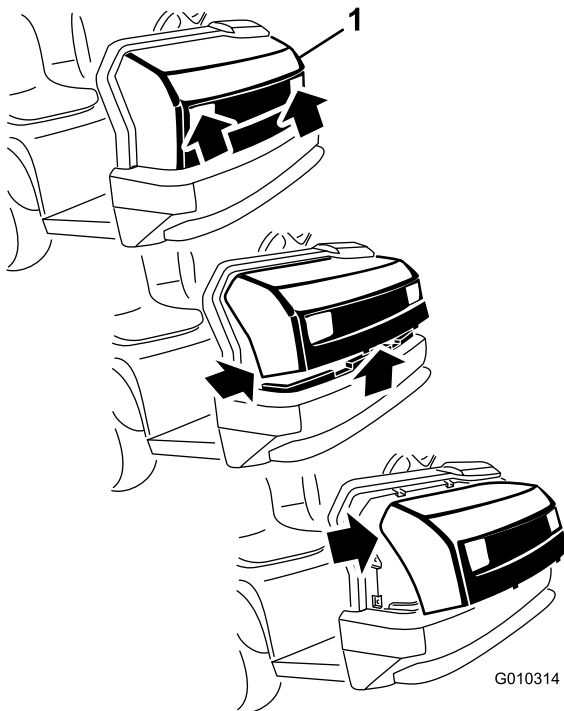

Figure 40
1. While grasping the hood in the headlight openings, lift up on the hood to release the lower mounting tabs from the frame slots (Figure 40).
2. Pivot the bottom of the hood upward until the top mounting tabs can be pulled from the frame slots (Figure 40).
3. Pivot the top of hood forward and unplug the wire connectors from the head lights (Figure 40).